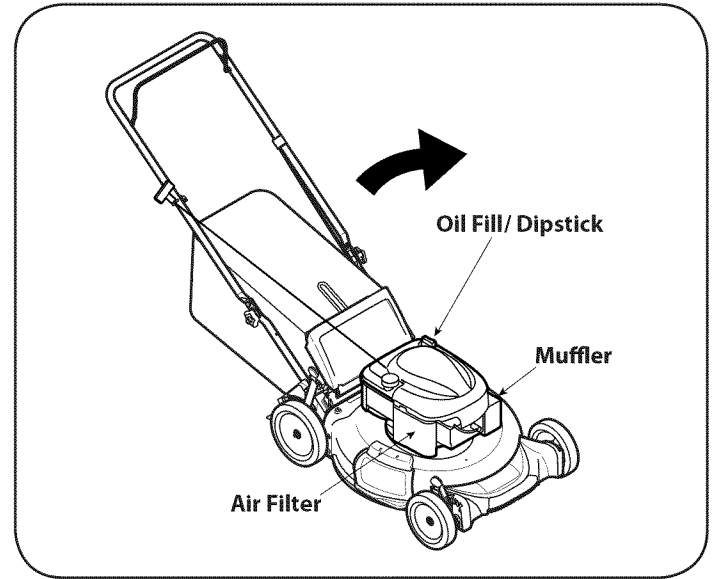

Figure 17
3. Remove the oil fill dipstick and drain the oil into the container by tipping the engine toward the oil filler neck. See Figure 17.
2. Tip mower so that it rests on the housing, keeping the muffler side down. Refer back to Figure 17. Hold mower firmly.